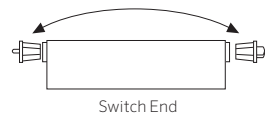

Fig 4
- c. Pull out both end plugs from the tube and switch them (Fig 4).